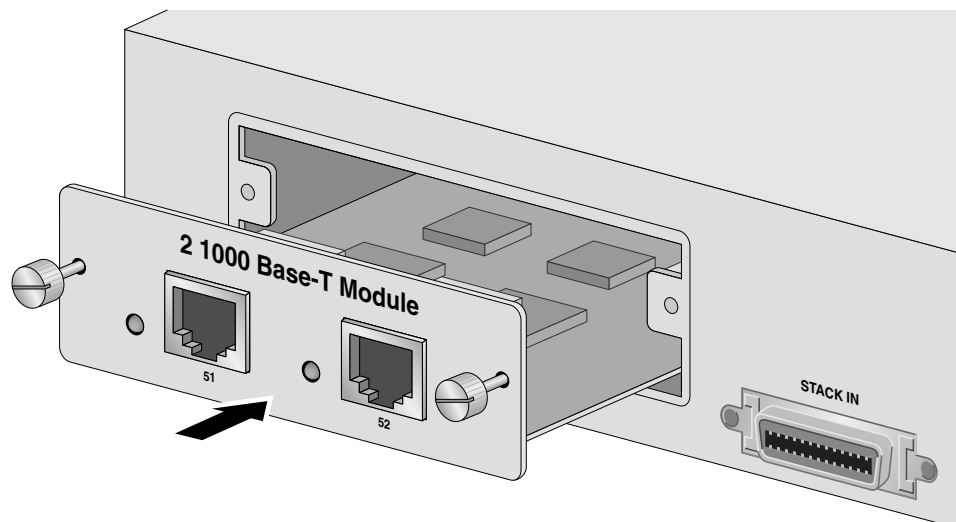

Figure 36 Installing a Module
6. Carefully slide the module into the slot until the module faceplate makes contact with the switch, as displayed in Figure 36. Avoid touching the module components.